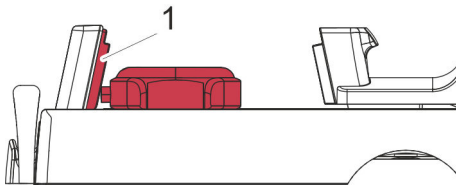
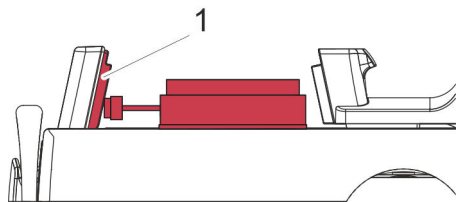

Fig. 14: Clamping the entire watch
Fig. 15: Clamping the watch movement with cup
2. ➔ Place the crown of the watch or cup on the clamping area so that it is positioned up against the signal sensor (Fig. 14/1, Fig. 15/1).